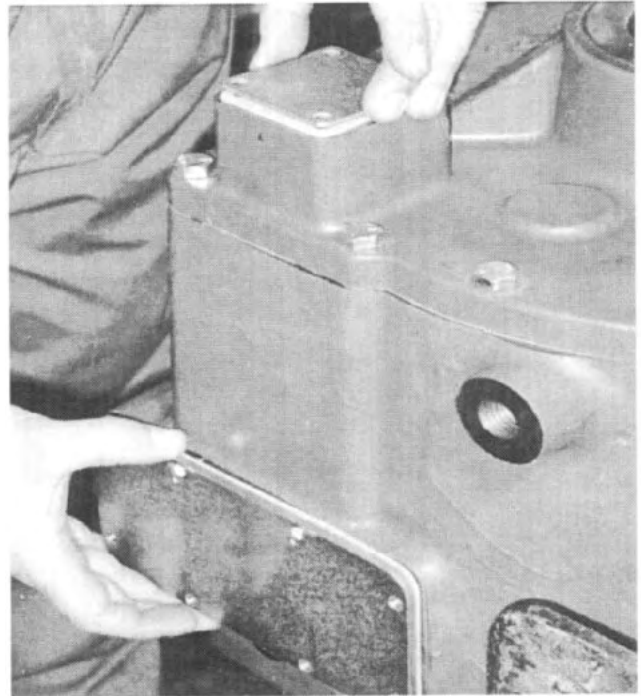

Fig. 104
41. Using a new gasket, secure both the shift shaft access cover plate and shift cylinder bore cap with 1/4-20 bolts. Torque to specification. See Fig. 104.